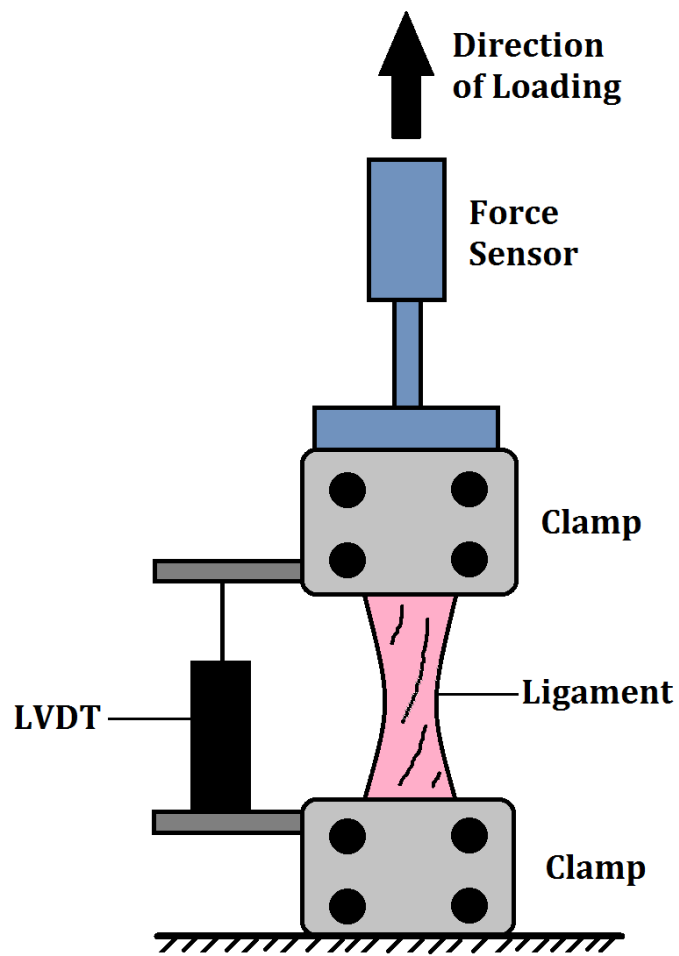

Figure 2
We plan to use an LVDT (Linear Variable Differential Transformer) driven by an oscillator at 3 kHz to experimentally analyze the non-linear relationship between the lengthening of a sheep ligament and the applied force. The experimental setup is as shown in Fig. 2
- 1) Preliminary question: is the elastic modulus of the ligament greater or smaller when the force is higher? Justify your answer. Explain how the elastic modulus can be experimentally estimated from the setup shown in Fig. 2.